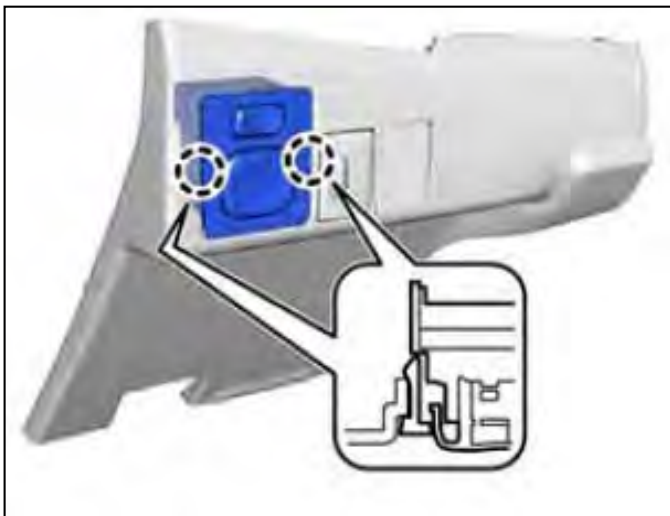

Figure 21
21. Engage the 2 claws and install the outer mirror switch assembly. See figure 21.